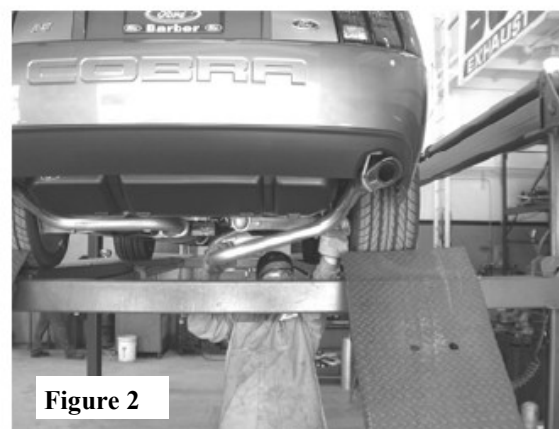

Figure 2
3. Remove the passenger side exhaust from the vehicle. (See Fig.2)